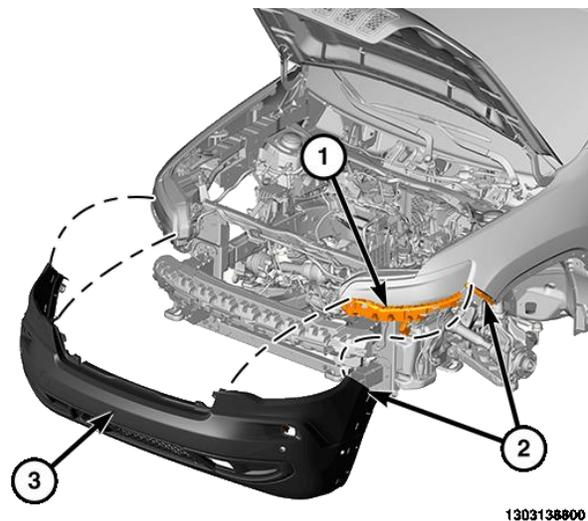

Figure 13 – Fascia Tabs at Fender
18. Carefully pull out on the upper and lower fascia sides to release the fascia retaining tabs at the fender (2) and below the headlight (1). Repeat on the opposite side (Figure 13).
30. Seat the fascia onto the clips under the headlights (1) fully (Figure 13).
31. Seat the sides of the fascia onto the fender clips (2) fully (Figure 13).